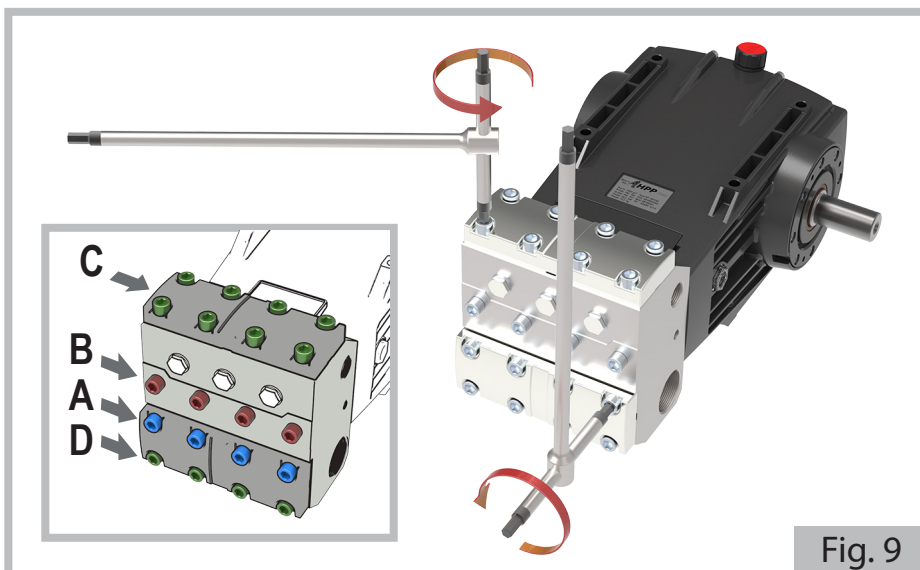

Fig. 9
- a) Remove the two valve caps (1) from the head (3) by loosening the screws **A-C-D** (see detail in figure 9) with a 12 mm Allen key, as follows:
- remove the two valve caps (1)